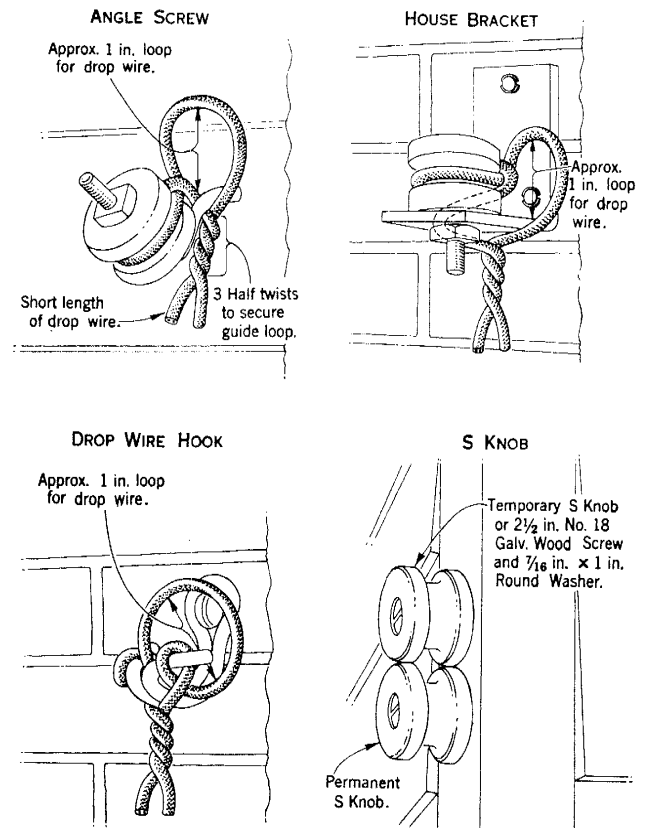

Fig. 1 – Temporary Guide Loop
- (1) Install the first building attachment or, if the drop wire is to be attached to a pole on the building side of the trolley contact or power wires or power cables, the pole attachment.
- (2) Attach a temporary guide loop to the first building attachment such as shown in Fig. 1, to prevent the drop wire from becoming accidentally disengaged from the building attachment during the placing operations.